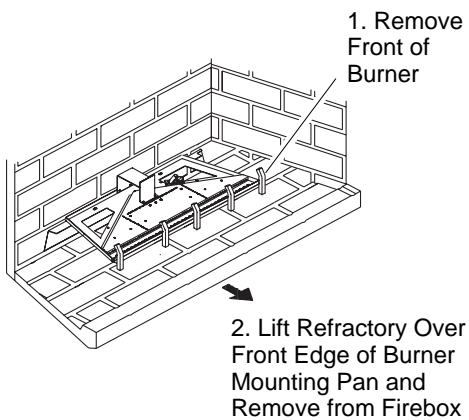

Figure 19 - Removing Bottom Refractory
4. Remove the bottom refractory by lifting and sliding out the front (see Figure 19). **Note:** Do not kink or damage the flex line connector.